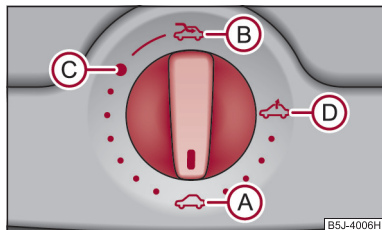

Fig. 34 Control dial for the power sliding/tilting roof
The sliding/tilting roof is operated by means of the control dial ⇒ fig. 34 and only functions when the ignition is switched on. The control dial has several positions.
- Turn the switch to position **C** ⇒ fig. 34.
- Turn the switch to position **(A)** ⇒ page 46, fig. 34.
The sliding/tilting roof is fitted with a force limiter. The sliding/tilting roof stops and moves back several centimetres when it cannot be closed because there is something in the way (e.g. ice). You can close the sliding/tilting roof completely without force limiter by pressing the switch to the **(A)** position ⇒ page 46, fig. 34 at the front for as long as it takes for the sliding/tilting roof to close completely ⇒ **⚠**.
It is necessary after each emergency operation (using Allen key) to move the sliding/tilting roof into the basic position. Here you have to turn the control dial forward to the switch position **(A)** ⇒ page 46, fig. 34 and press for about 10 seconds. ■